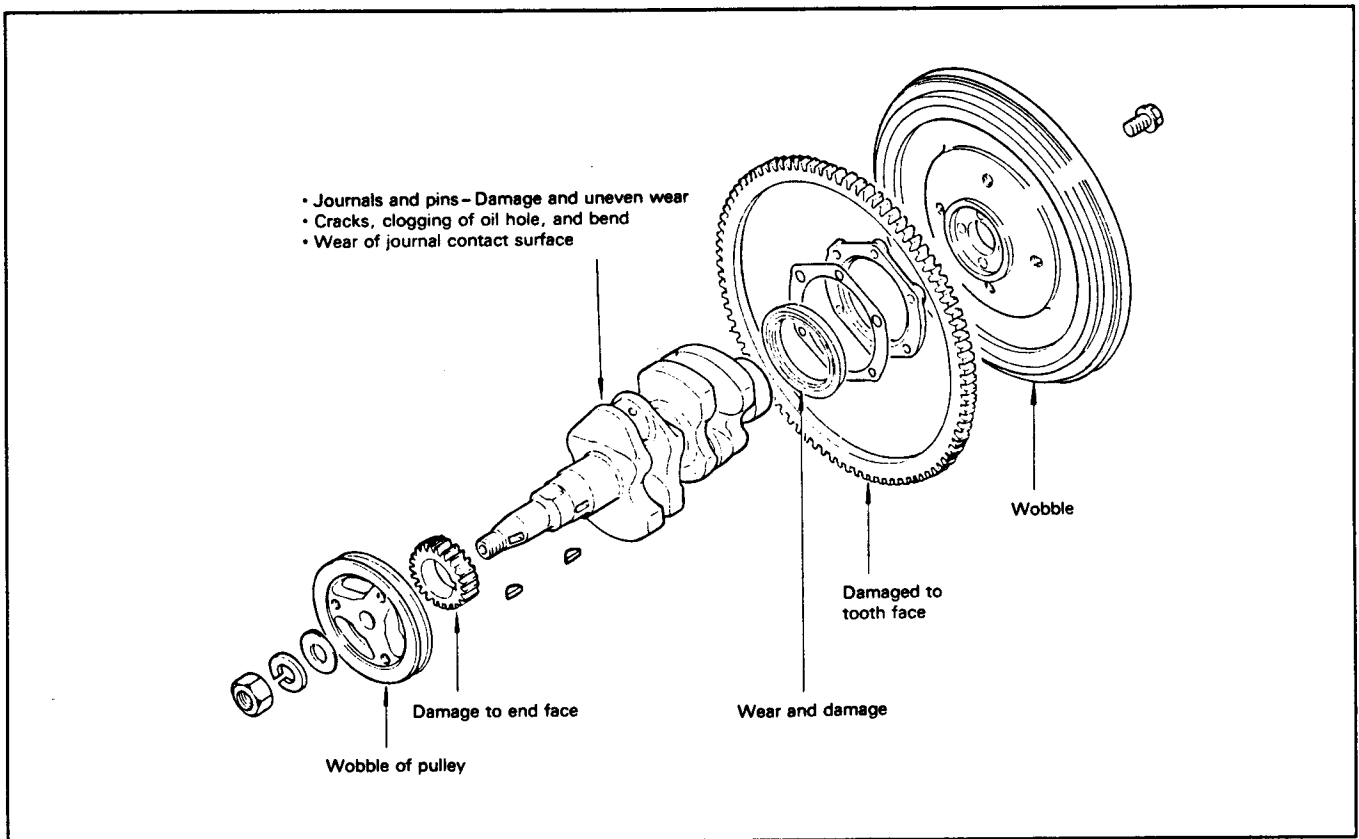

Figure 92
6. Inspect the removed parts. Repair or replace any worn or damaged parts (Fig. 92).